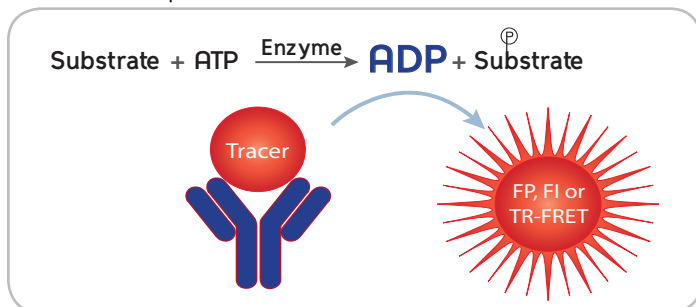

Figure 1. Transcreener® ADP² FP Assay Principle
The Transcreener® ADP² FP Assay is a far-red, competitive fluorescence polarization (FP) assay based on the detection of ADP, and is a simple, one-step homogenous detection assay. The Transcreener ADP Detection Mixture is comprised of an ADP Alexa633 Tracer bound to an ADP² Antibody. When the Transcreener ADP Detection Mixture is added to an equal volume of enzyme reaction mix, ADP is generated and replaces the ADP Alexa633 Tracer (Figure 1). The displaced ADP Alexa633 Tracer freely rotates leading to a decrease in fluorescence polarization.